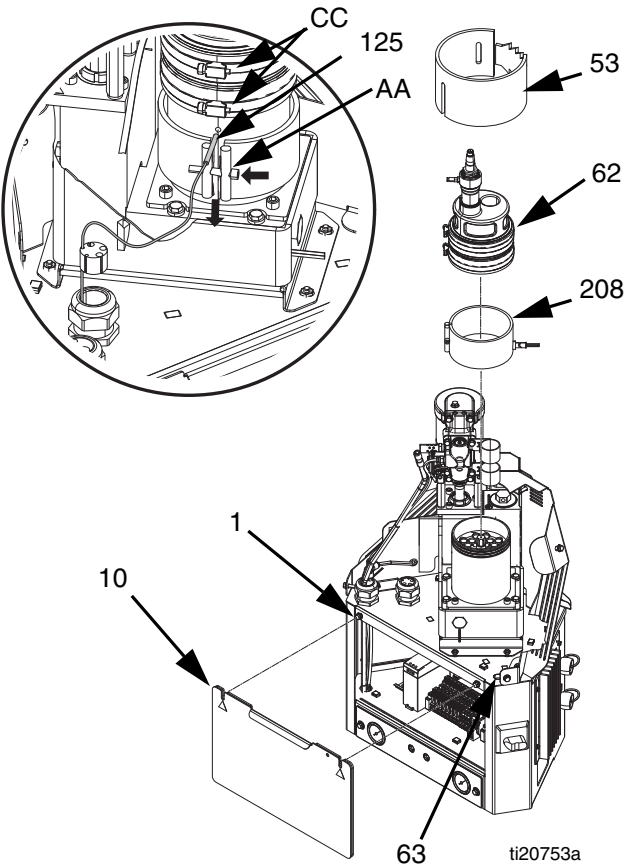
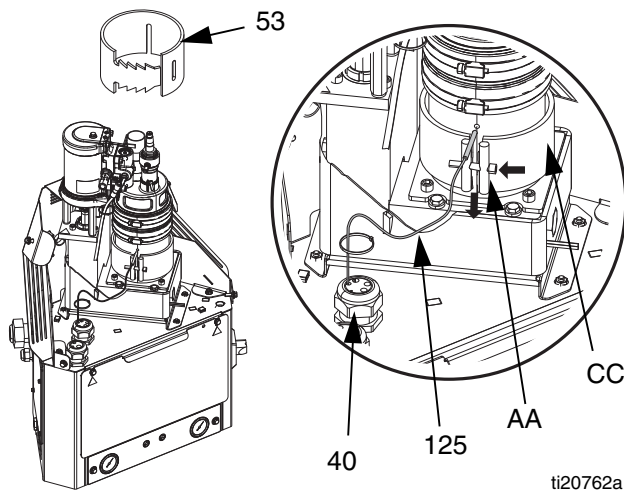
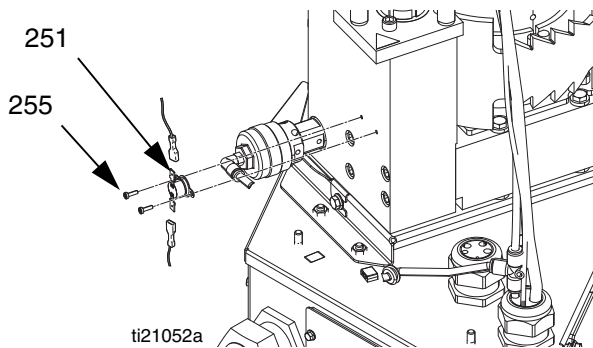

FIG. 36
FIG. 37
FIG. 38
6. Remove screws (8) then remove electrical enclosure front access door (10).
7. Remove the air tube (36) from the relief valve (245). Pull the air tube from the metal shroud (27).
8. Remove nuts (3) on the back metal shroud (27) then remove shroud.
9. Loosen hose clamp on air motor bracket (528) then remove funnel (61).
10. Remove wire connectors from the over-temperature switch (251).
11. Remove insulators (52, 53) from the melter assembly (5).
12. Disconnect the fill sensor cable from the fill sensor (20).
14. Remove the air tube from the fill cap (62).
15. Remove the air tube from the air motor (218).
16. Loosen screw (AA) then remove sensor (125). See FIG. 36 on page 60.
17. Remove electrical enclosure front access door (10).
18. Remove all heater wires from the following terminals. Pull wires up through the rubber grommet on the top of the electrical enclosure (1). See FIG. 36 on page 60 for references.
3. Use 4 bolts (259) to secure melter assembly to melter base (257).
4. Use four nuts (3) to secure melter assembly to system.
5. Group the 4 sets of heater wires together and run them through the grommet on the top of the electrical enclosure (1). Connect wires as noted below. See FIG. 36 on page 60 for references.
6. Connect air tube to air motor (218).
7. Connect air tube to fill cap (62).
8. Connect fill sensor cable to the fill sensor (20).
10. Install funnel (61) into air motor bracket (528) then tighten clamp.
11. Install temperature sensor (125) into melter then tighten screw (AA) on band heater. See FIG. 36 on page 60.
12. Install insulators (52, 53) onto the melter assembly (5).
13. Connect wire connectors to the over-temperature switch (251). See FIG. 38 on page 62.
14. Use nuts (3) to install metal shroud (27).
15. Pull the relief valve air tube (36) through the metal housing then attach air tube to relief valve (245).
16. Install front access door (10) onto electrical enclosure (1).
18. Reconnect all heated hoses to the melter outlet manifold (203).
Disassembly (see FIG. 36):
Reassembly (see FIG. 36):
6. Install electrical enclosure access door (10). See FIG. 36.
7. Install fabric melter insulator (53).